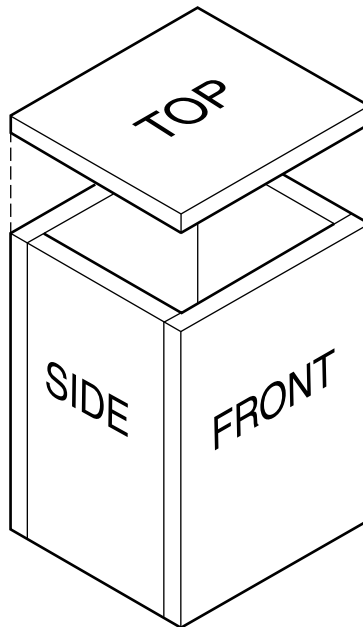

Fig. 6
- (e) Fig. 6 shows how five pieces of foamboard will fit together to make the architectural model. Complete the cutting list below to show the required sizes for each of the pieces.